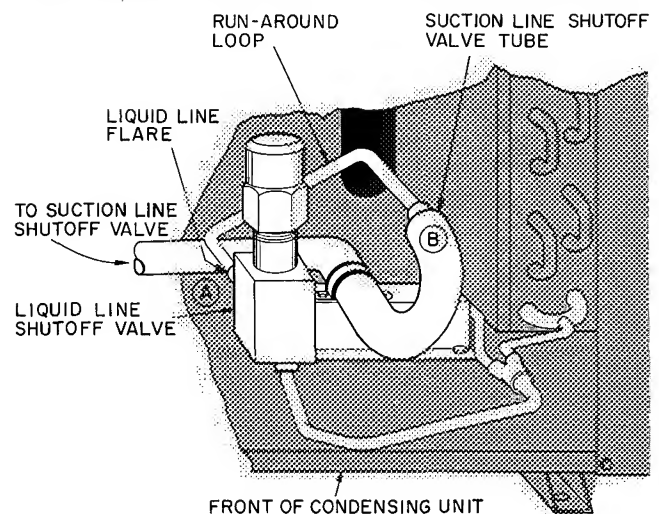

Fig. 3 — Condensing Unit Piping Connections
2. Remove run-around loop (Fig. 3) by loosening flare nut connection at liquid line shutoff valve flare connection (A) to relieve run-around loop pressure. Unsweat other end (B) of run-around loop at suction line shutoff valve tube.
3. Connect suction line to condensing unit suction line shutoff valve tube (B on Fig. 3) and evaporator suction outlet.